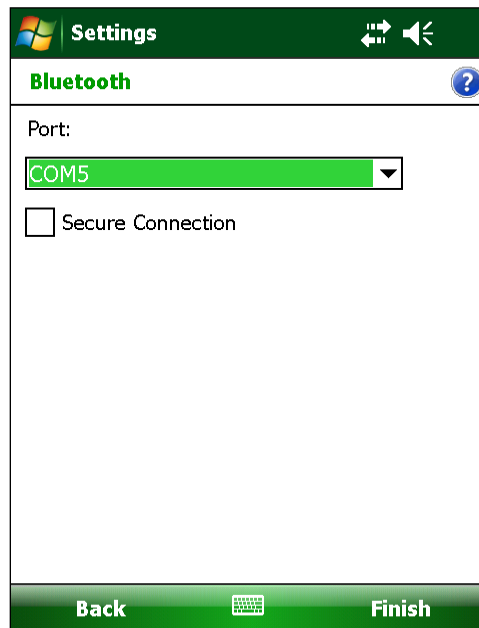

Figure 13 - COM Port Selection
- 8) From the “Port:” dropdown list, select a COM port (COM5 is the default). Be sure to remember the number of the COM port as you may have to select it later in the readout software (see Section 3.5.3). Make sure to “uncheck” the “Secure Connection” checkbox (Figure 13). Tap “Finish” when done to return to the Bluetooth Settings “COM Ports” screen. **Note:** If using a Nautiz X7, COM5 may be available, depending on the model.